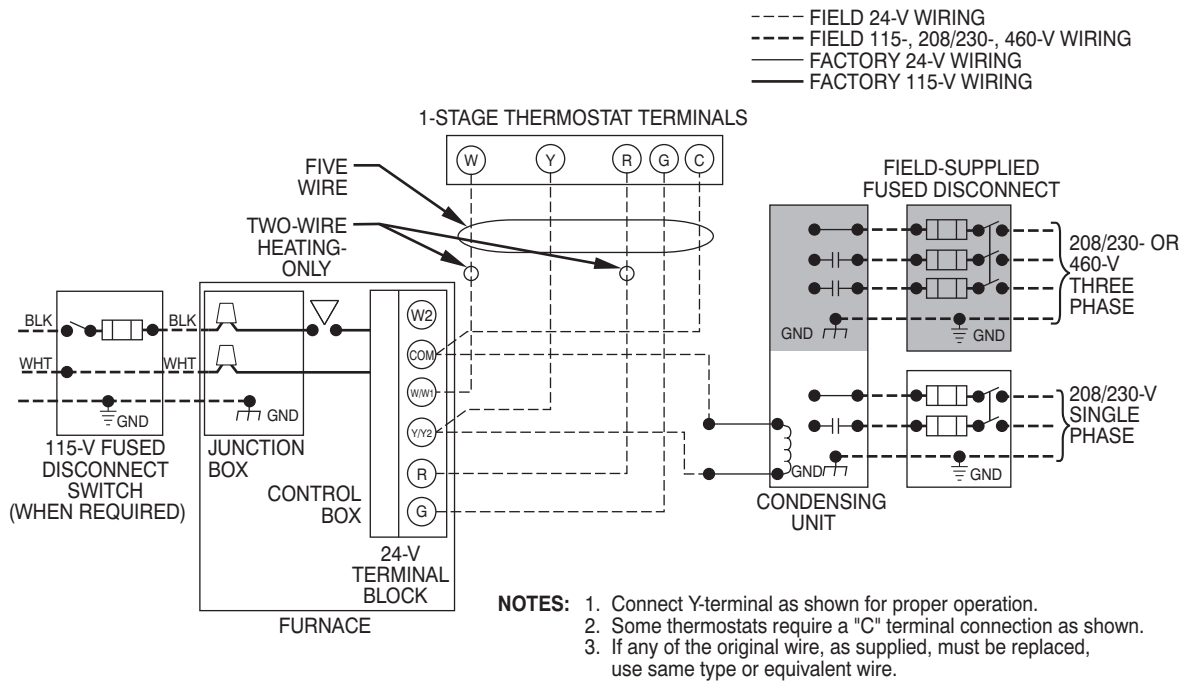
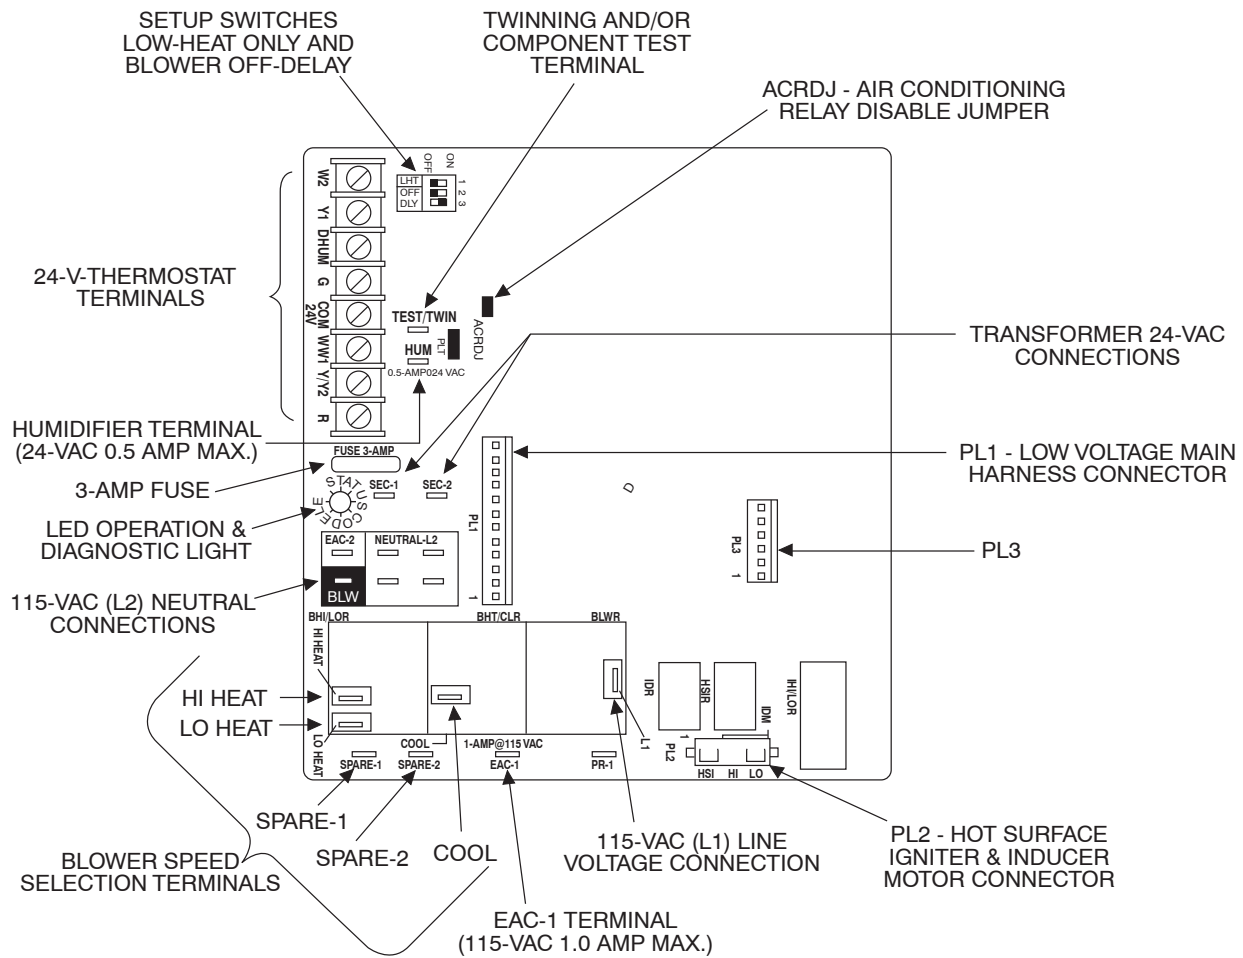

Fig. 31 - Typical Heating and Cooling Application Wiring Diagram 1-Stage Thermostat and Condensing Unit
Fig. 37 - Control Center
See Fig. 31, 32, and 50-57 for field wiring diagram showing typical field 115-v and 24-v wiring. Check all factory and field electrical connections for tightness.
Make field 24-v connections at 24-v terminal block on furnace. (See Fig. 37.) Connect terminal Y/Y2 as shown in Fig. 31 and 32 for proper cooling operation. Use only AWG No. 18, color-coded, copper thermostat wire for lengths up to 100 ft. (30 M). For wire lengths over 100 ft. (30 M), use AWG No. 16 wire.
The 24-v circuit contains an automotive-type, 3-amp fuse located on furnace control. (See Fig. 37.) Any direct shorts of 24-v wiring during installation, service, or maintenance could cause this fuse to blow. If fuse replacement is required, use **ONLY** a 3-amp fuse of identical size/type. The control will flash code 24 when fuse needs replacement.
1. Electronic Air Cleaner (EAC) Two male quick-connect terminals marked EAC-1 and EAC-2 are provided for EAC connection. (See Fig. 37.) These terminals are energized with 115-v (1.0-amp maximum) during blower motor operation.